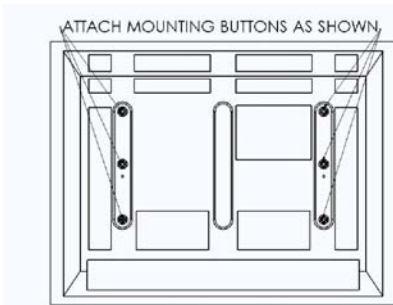

Figure 2
1. Attach mounting buttons to plasma utilizing the enclosed button head cap screws, mounting buttons, and 1 spacer under each button (See Figures 2 & 3).